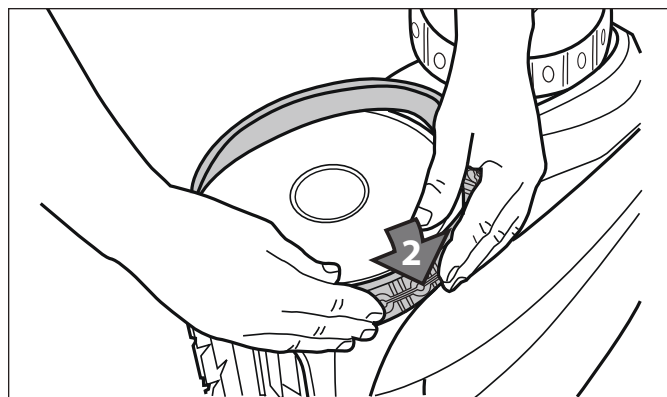

Figure 38. Start on One Side of the Tire
4. Push one side of the tire on to the wheel and fit the rib of the tire in the groove of the wheel as shown in Figure 38.